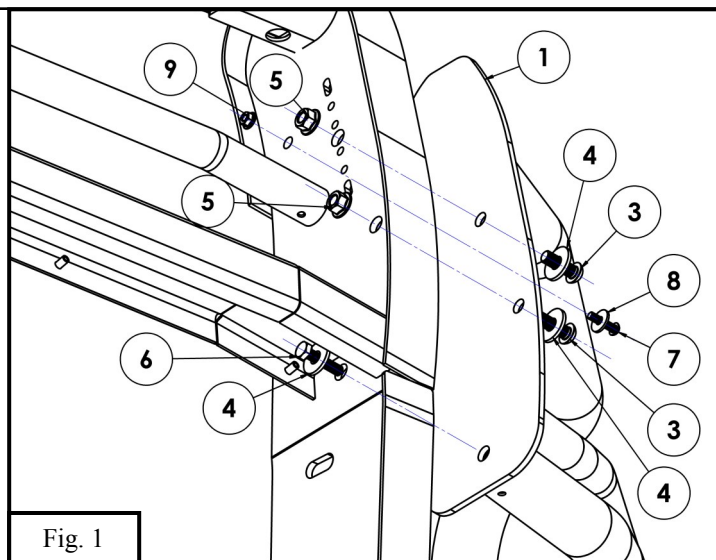

Fig. 1
3. One side at a time loosely install each Wing Wrap to the Push Bar uprights using the supplied M10 and M6 hardware. (Note: The M10 Hex Bolt threads into a welded nut on the inside the wing wrap.) **See Figure 1**